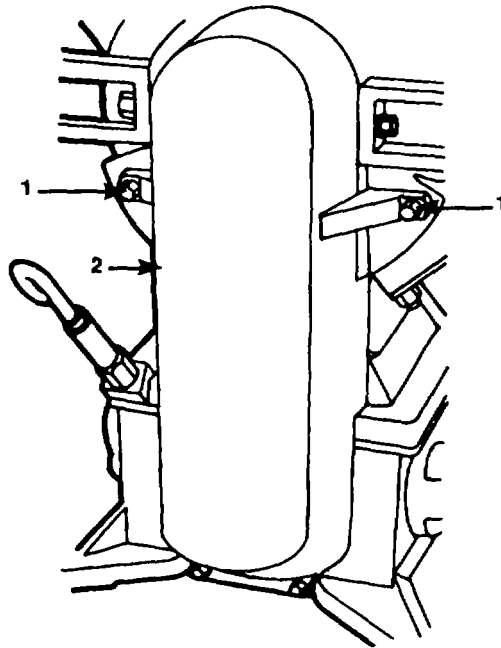

Figure 3-11. Oil Pump Drive Belt Cover
1. Remove 4 allen head bolts (1) and washers (figure 3-11).
2. Remove cover (2) from crankcase.